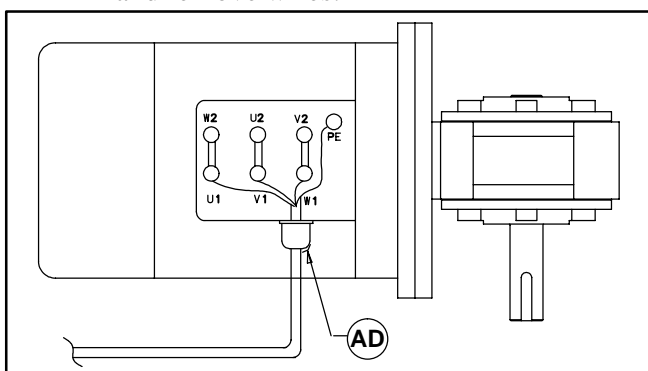

Figure 19
- b. Record wire colors on terminals U1, V1, W1 & PE (Figure 19). Loosen terminals U1, V1, W1 & PE and remove wires.
- c. Loosen cord grip (AD of Figure 19) and remove cord.